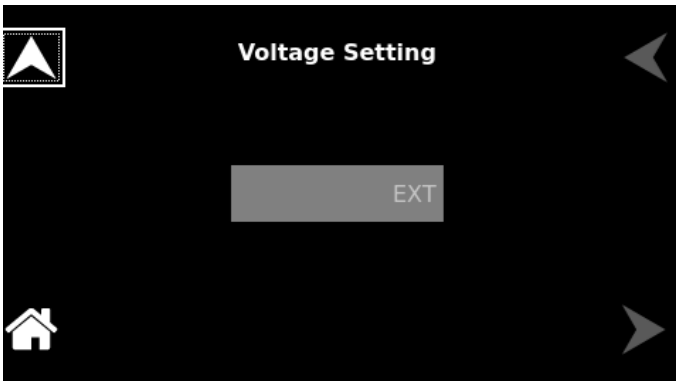

Figure 10-175. Output Program Screen – Voltage (EXT)
- **PONS Voltage Ref Mode :** Configures the PONS Voltage Reference Mode, refer to Figure 10-173. When the PONS Voltage Reference Mode is set to External, the Voltage setting field on the Dashboard screen and the ‘Voltage’ option in the Output Program screen will be disabled, and these Voltage fields will display as ‘EXT’. Refer to Figure 10-174 and Figure 10-175.